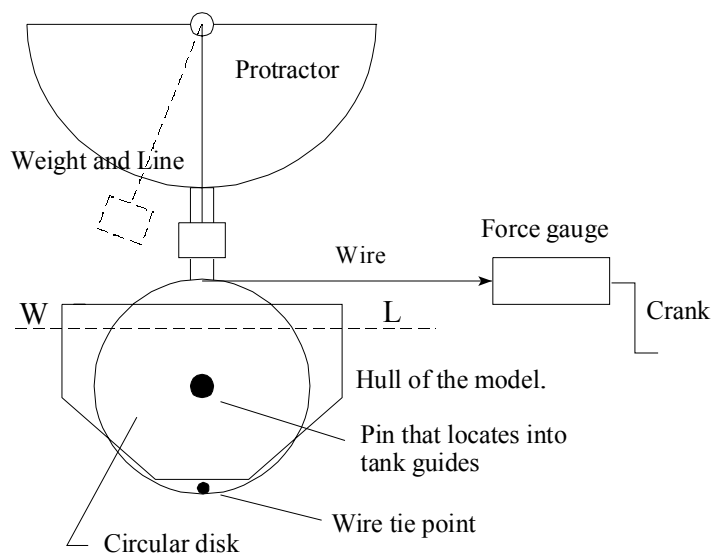

Figure 1 - Stern view of apparatus
1. The stern view of this apparatus is shown in Figure 1. A 27-B-1 model in its normally loaded condition is floated so that steel pins mounted on its bow and stern fit into vertical guides on the side of the tank. These pins hold the model in the center of the tank while allowing it to float freely in the vertical direction.